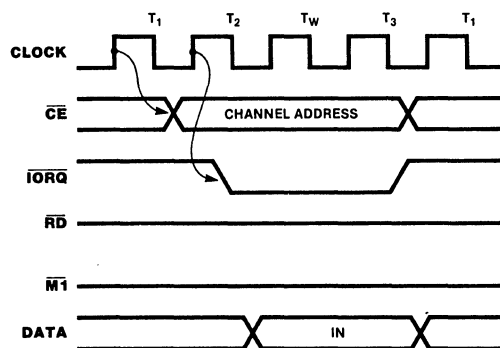

Figure 6. Write Cycle
**Write Cycle.** Figure 6 illustrates the timing and data signals generated by a Z80 CPU output instruction to write a Data or Control byte into the Z80 DART.